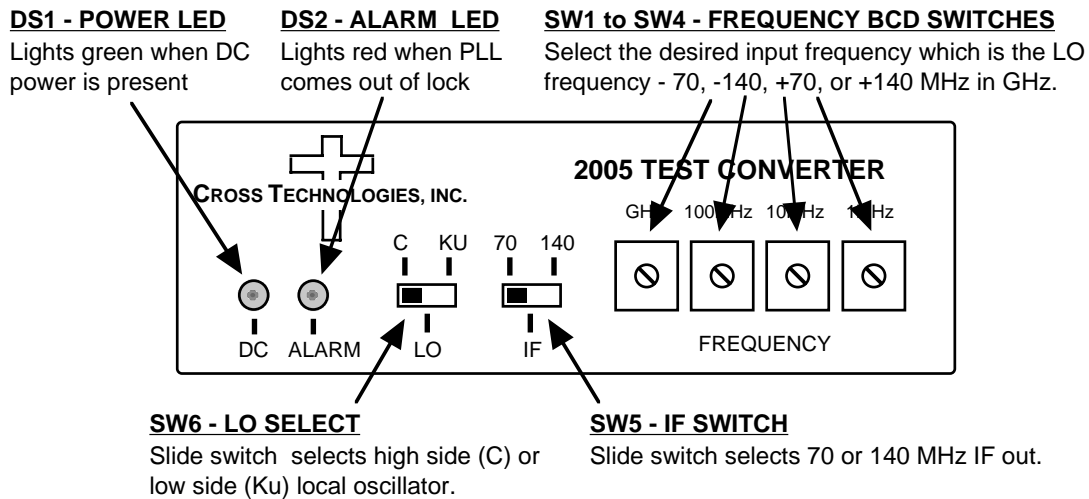

FIGURE 2.1 2005-20 Front Panel Controls and Indicators
2.2 Front Panel Controls/Indicators - Figure 2.1 shows front panel controls and indicators for the 2005-20.
2. Select either C or KU band (SW6) and either 70 or 140 MHz IF (SW5) using the front panel switches (Figure 2.1).
6. Set BCD switches, SW1 to SW4, to the desired frequency (Figure 2.1).
7. Be sure DS1 (green, DC Power) is on and DS2 (red, Alarm) is off (Figure 2.1).